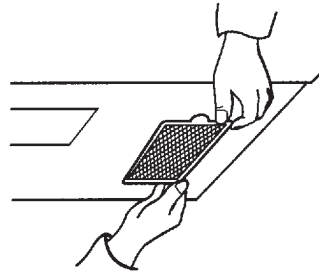

Figure 34
7. To install the grease filter: Slide it into the slide slot, then push up and toward oven center to lock. See Figure 34.